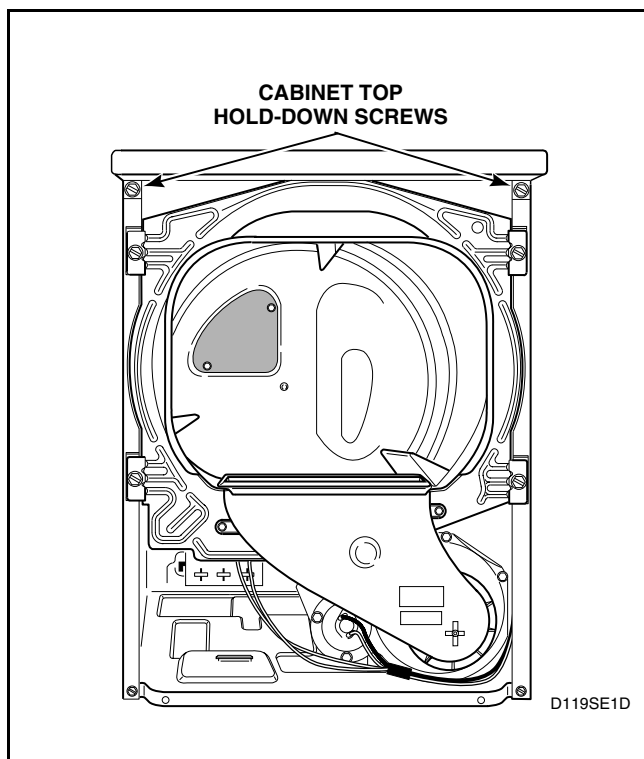

Figure 24
- m. Remove two cabinet top hold-down screws. Refer to *Figure 24*.
- l. Remove two cabinet top hold-down screws. Refer to *Figure 24*.
- n. Remove two cabinet top hold-down screws. Refer to *Figure 24*.